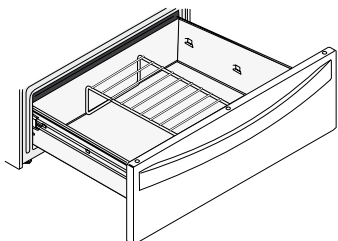

Fig. 1
- In the upright position (See Fig. 1) to allow low profile food items to be placed both under and on top of the rack (for example, rolls or biscuits on top of the rack and a casserole dish underneath).